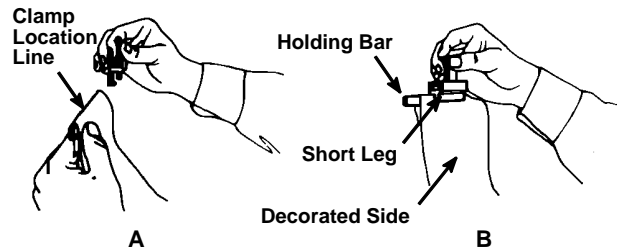

Figure 12. Installing the Wedge Clamp
- Push the clamp over the sign face and then slide it over the holding bar as shown in Figure 12.